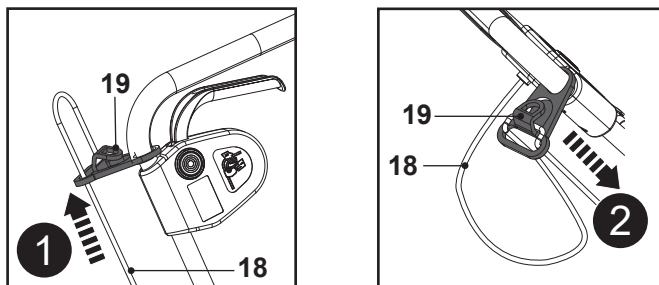

Fig 8
1. Double the power cord (18) back, about 40 cm from the power guard and lead the loop through the hole of the cord retainer (19) and hang the loop over the loop.
2. Pull the power cord (18) over the cord retainer (19) and gently tug on the power cord (18) to ensure that it is firmly secured (Fig. 8, steps 1, 2).